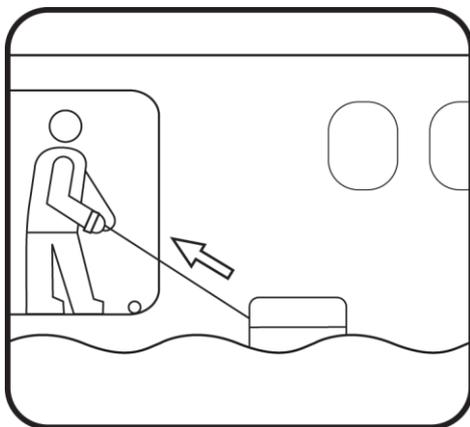

FIGURE 4
6. Pull the red inflation handle to fully extend the inflation lanyard until it is taut and tight. This will require pulling out about 6 feet (2 meters) of line (See Figure 4).